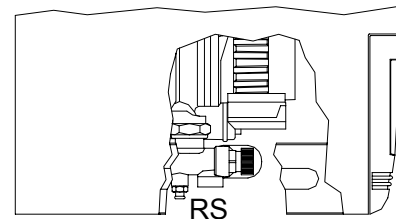

Fig. 3
- turn the system drain tap RS (see fig. 3) and use a container to collect the water that runs out;